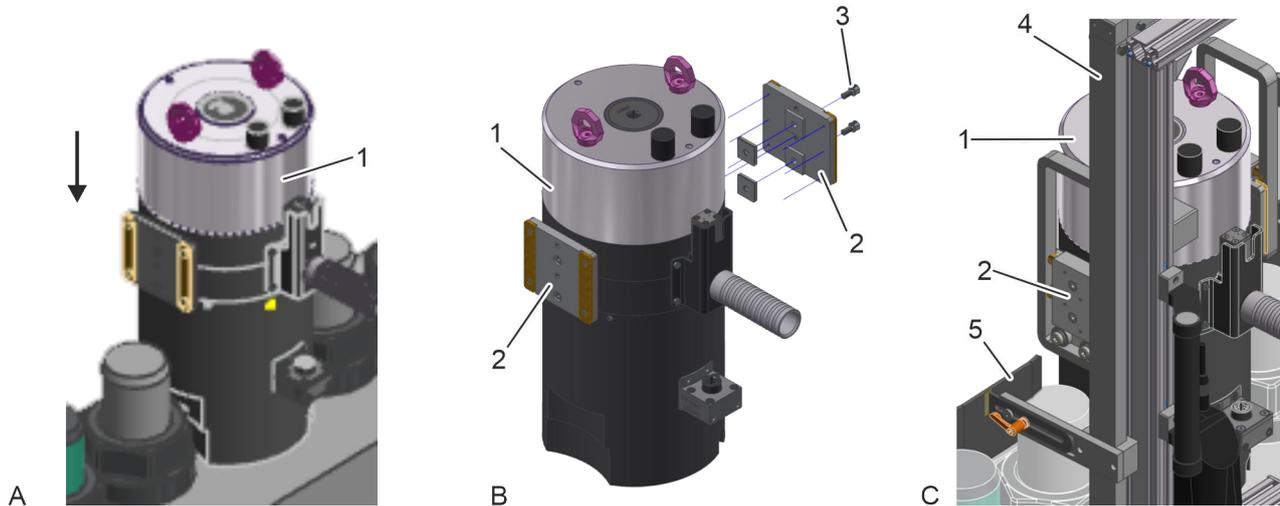

Fig. 8: Assembling the tool
1. Place the tool (hydraulic tensioner or bolting tool) on the flange of the bolted connection (Fig. 8/A).
2. Attach the hydraulic tensioner adapters on both sides to the tool (Fig. 8/B). Fasten the adapter bolts (Fig. 8/3).
3. Pull out the support plates (Fig. 8/5) completely and lock them in position with the clamping levers.
Place the lifting device on the tool from above (Fig. 8/C) so that the hydraulic tensioner adapter (Fig. 10/2) sits on the slide guide (Fig. 10/8) of the lifting device.